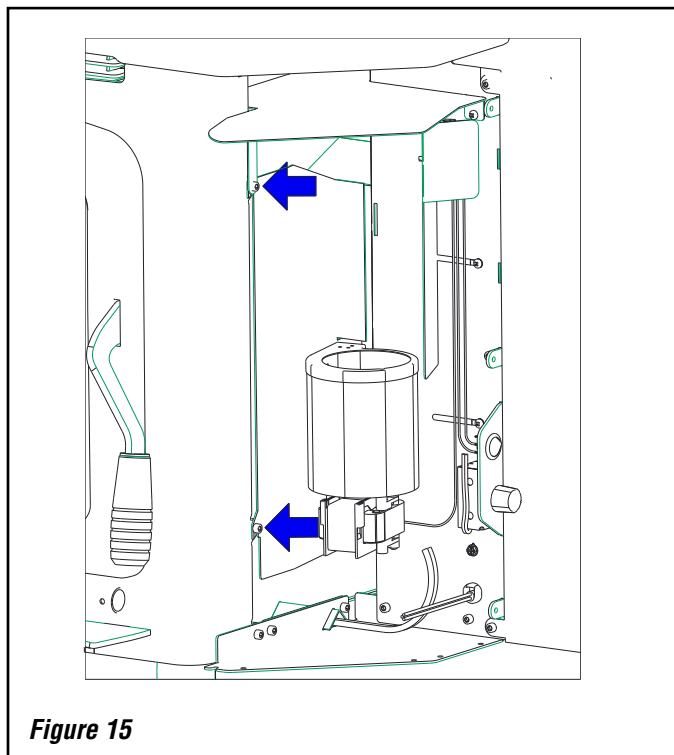

Figure 15
Step 6. Tighten the two 5/32" hex screws onto the new blower bracket and reconnect the new blower. (Note, there is no ring connector) See **Figure 15**.